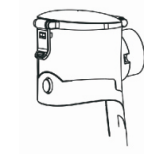

Fig.8
- Close the medicine tank by pressing the hook firmly and securely back to place. (Refer to Fig. 8)